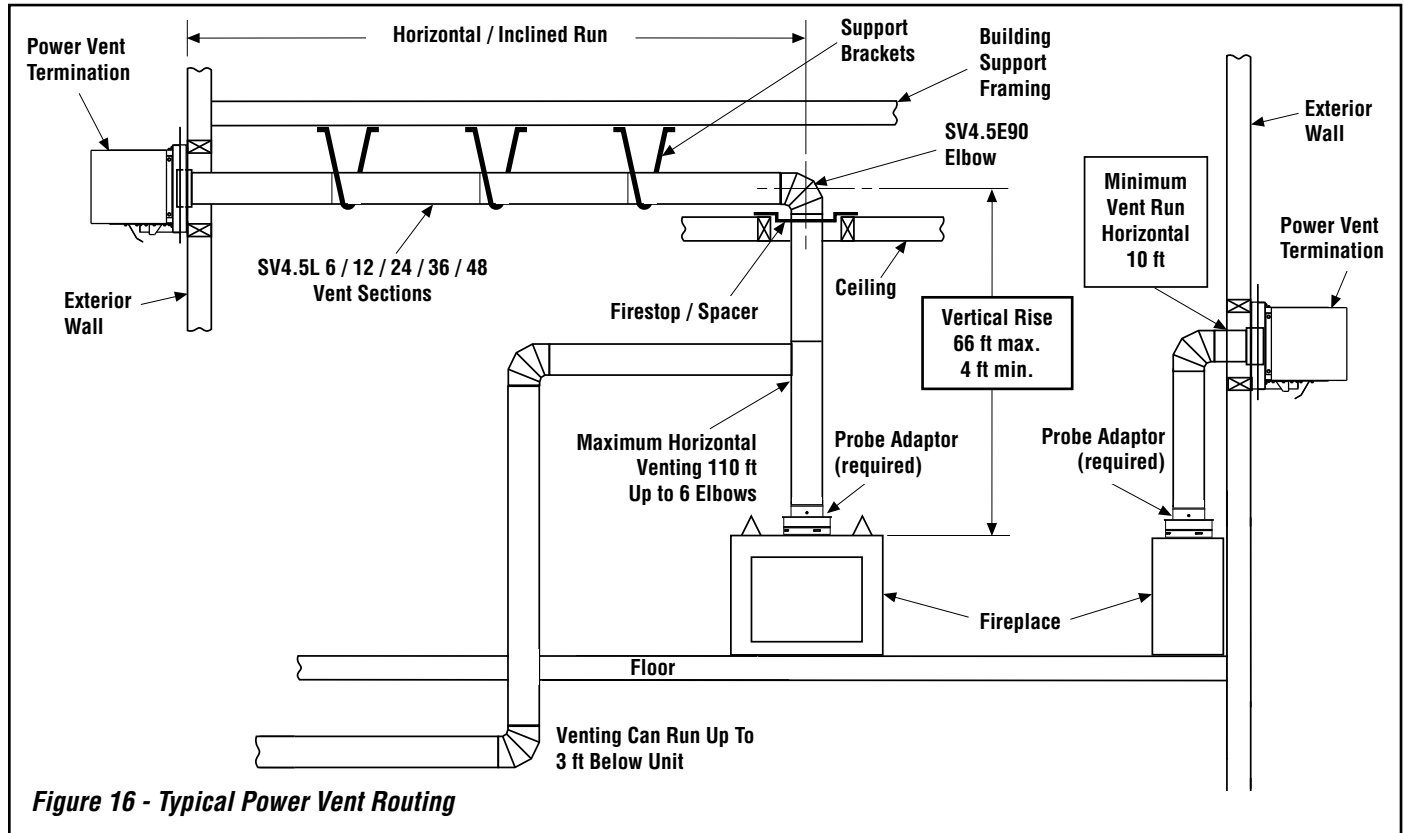

Figure 16 - Typical Power Vent Routing
C. Attach vent components to each other - Other vent sections may be added to the previously installed section in accordance with the requirements shown in *Figures 16 and 17 on Page 17*.
G. Continue installation of horizontal/inclined sections - Continue with the installation of the straight vent sections in horizontal/inclined run as described in **Step C**. Install support straps every three feet (914 mm) along horizontal/inclined vent runs using conventional plumber's tape (*Figure 16 on Page 17*).
See **Figures 16 and 17 on Page 17** illustrating the various horizontal venting configurations that are possible for use with these appliances. **Table 9 on Page 17** shows each system's minimum and maximum vertical and horizontal length values that can be used to design and install the vent components in a variety of applications.
I. Continue installation of horizontal/inclined sections - Continue with the installation of the straight vent sections in horizontal/inclined run as described in **Step E**. Install support straps every three feet (914 mm) along horizontal/inclined vent runs using conventional plumber's tape (see **Figure 16 on Page 17**).